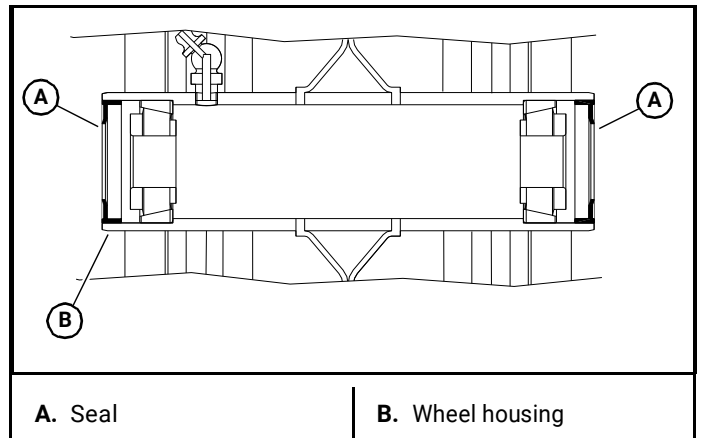

Figure 4-30
3. Insert the new tapered roller bearings into the outer bearing race. Figure 4-30
4. Insert the new seals into the wheel housing. Make sure that the flat side of the seal is flush with the outside edge of the wheel housing. Figure 4-30